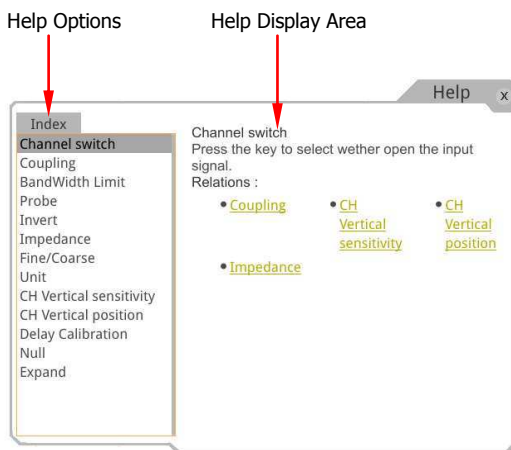

Figure 14 Help Information
2. Press **Help** or tap the "Help" option, and then the help information is displayed on the screen, as shown in Figure 14. The help interface mainly consists of two sections. The left section lists "Help Options", and the right section is the "Help Display Area".